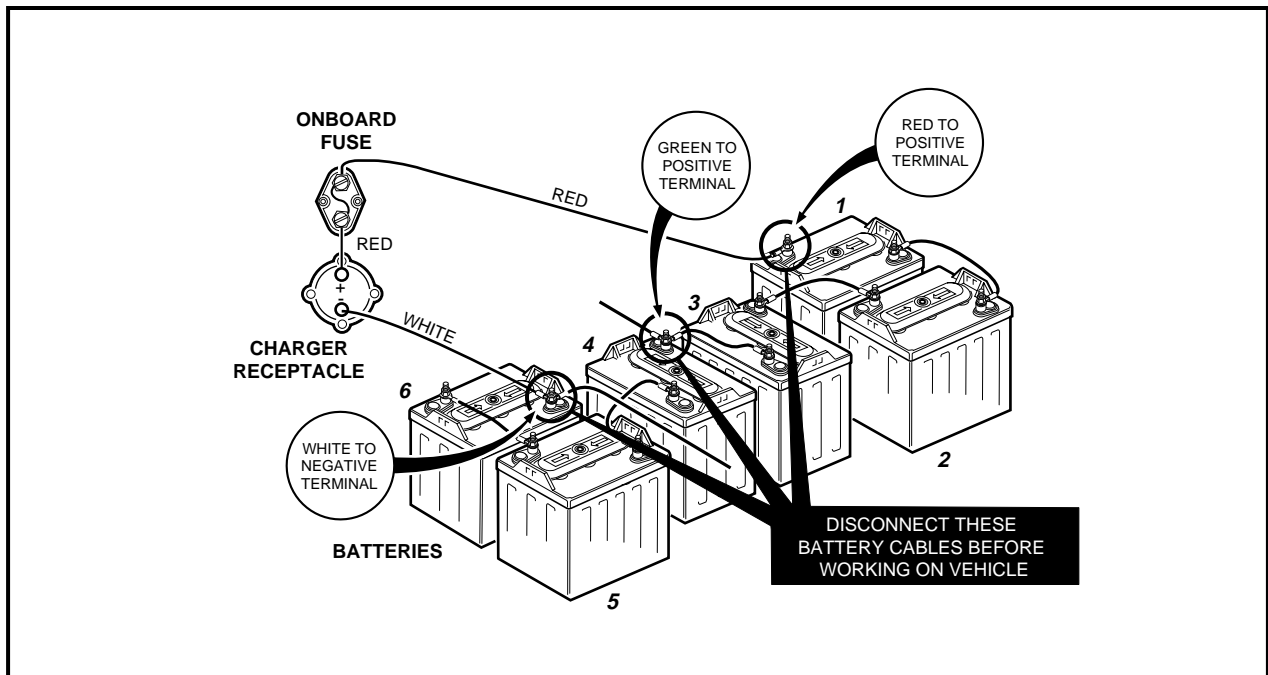

Figure 14-4 Charge Circuit
- TO AVOID UNINTENTIONALLY STARTING THE VEHICLE, DISCONNECT BATTERIES, NEGATIVE CABLE FIRST, AS SHOWN IN **FIGURE 14-4, PAGE 14-3**.
The charge circuit consists of the charger receptacle, receptacle fuse link, and the batteries. The negative terminal of the receptacle is connected to the No. 6 battery by a 10 gauge white wire, and the positive terminal of the receptacle is connected to the fuse link. A 10 gauge red wire from the receptacle fuse link connects to the positive post of battery No. 1. If the charger operates properly with one vehicle, but will not operate properly with another, check this path to be sure the receptacle fuse link has not failed and all connections, including battery connections, are clean and tight (Figure 14-4, Page 14-3).